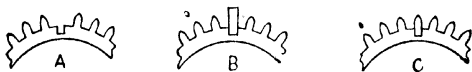

FIG. 17.—Replacing a Broken Tooth.
**Broken Wheel Teeth.**—Broken teeth seldom occur in these clocks, but are fairly easy to replace. Fig. 17 shows the